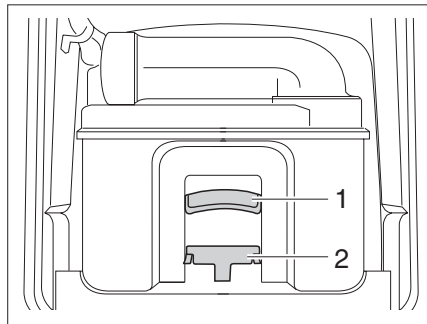

Fig. 189 Thetford cassette
- Pull the retaining clip (Fig. 189,2) forward to unlock the toilet cassette and pull out the cassette at the handle (Fig. 189,1).